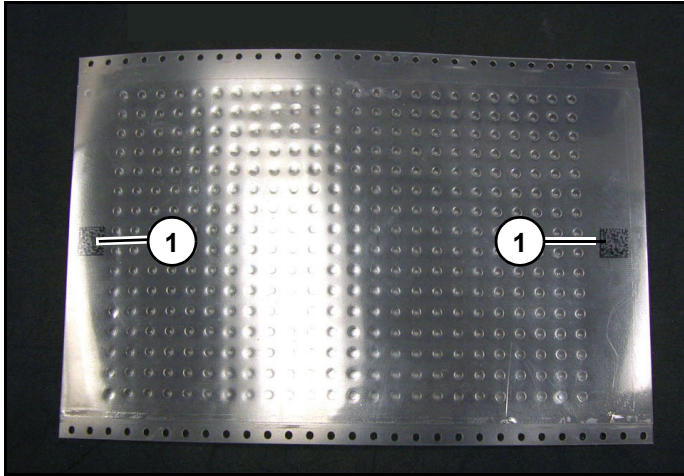

Figure 5
A 2D (data matrix) code (1) (Figure 5) is printed on either side of identifying array. 2D code is a unique parameter for array.